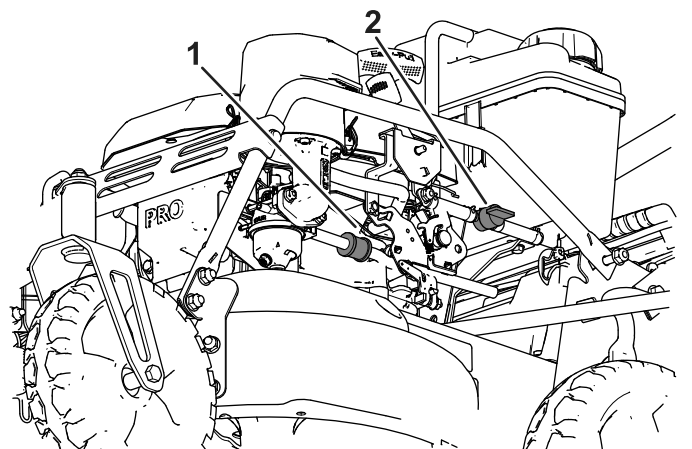

Figure 29
3. Close the fuel-shutoff valve (Figure 29).
4. Remove the fuel filter (Figure 29) from the fuel line by loosening the tube clamps surrounding the fuel filter.